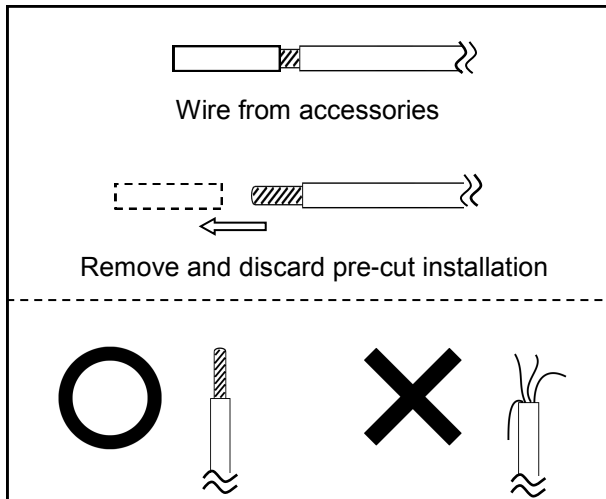

Fig. 1
1. Remove the pre-cut installation on the open end of wire from accessories. Wires **MUST NOT** be frayed and connected properly as shown in Fig.1.